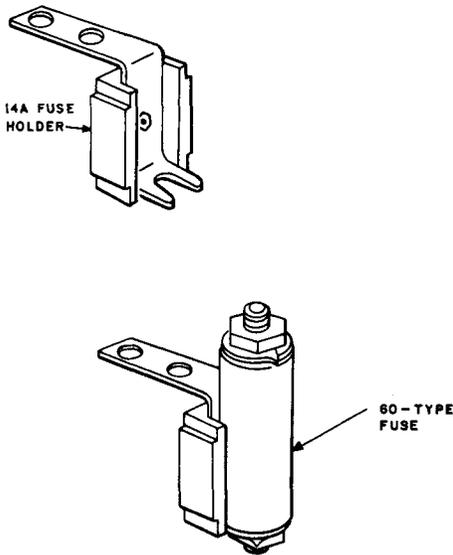
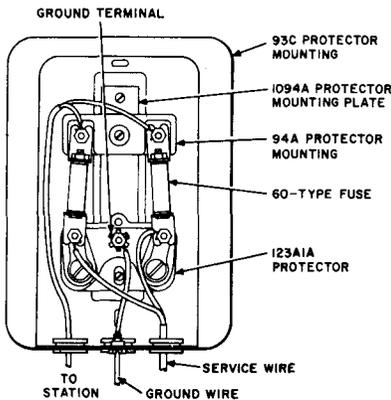

Fig. 18—14A Fuse Holder
Fig. 19—Fuseless Protector Equipped With 60-Type Fuses—Outdoor Installation
**3.12** When sneak current protection is required for pairs terminated on 116- or 117-type protectors 14A fuse holders are required. Fig. 18 shows the 14A fuse holder and Fig. 4 shows a 116C protector equipped with 14A fuse holders and 60-type fuses. Fig. 19 and 20 show 60-type fuses used with other type protector mountings and protectors.